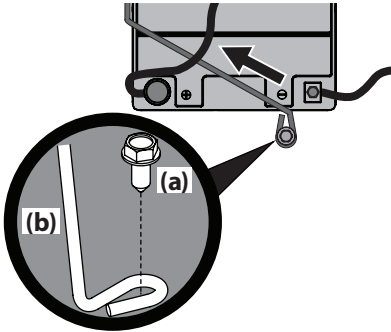

Figure 16
NOTE: Wiring harness should lay on top of battery hold down rod, otherwise damage to the wiring harness may result. See Figure 16 on page 12.
3. Remove the hex washer screw (a) securing the battery hold down rod (b) to the frame. Then flip the battery hold down rod (b) up to free the battery. See Figure 16.